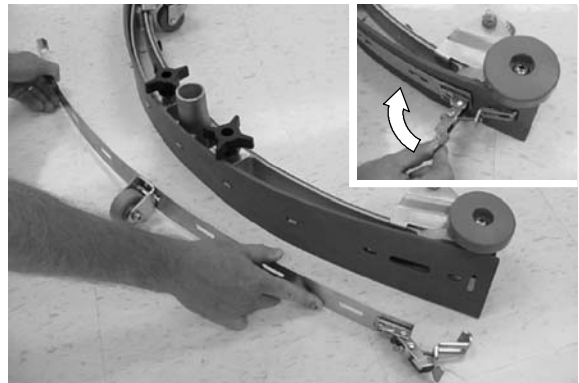

FIG. 44
2. Loosen the band clamp and remove the band from the squeegee assembly (Figure 44).